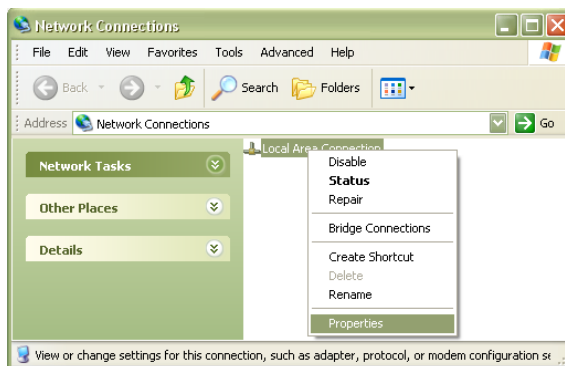

FIGURE 2-2: NETWORK CONNECTION PROPERTIES
- 3) Right click on the connection that will be used to communicate with the EX7000, then select **Properties** (see Figure 2-2). Some PCs have multiple network connections, so it is important to make certain that the connection used to communicate with the EX7000 is selected.